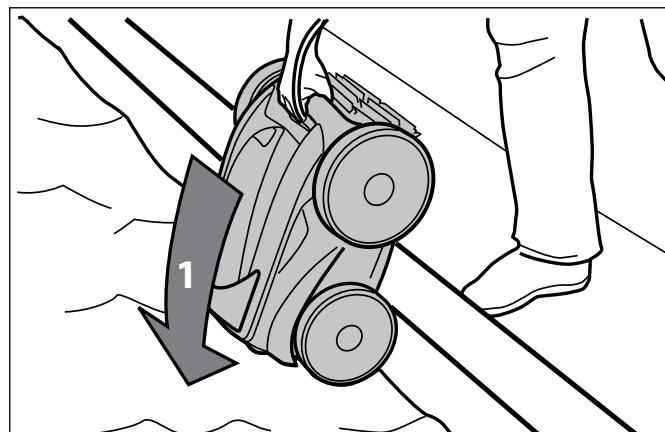

Figure 15. Submerge the Cleaner Vertically
1. Submerge the cleaner in the pool and remove any air trapped inside by keeping the unit vertical (Figure 15).